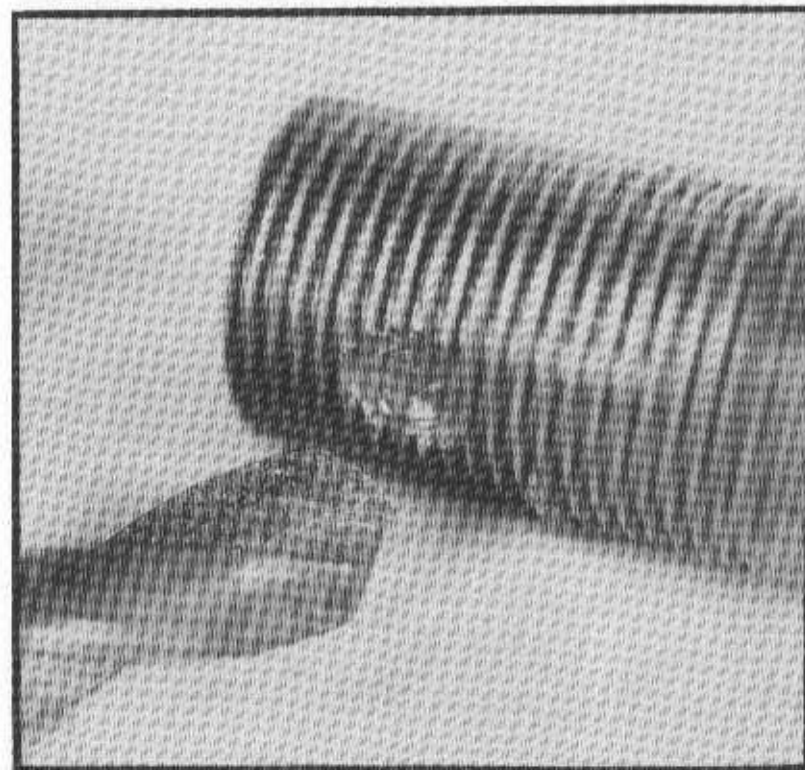

Figure 4-6
5. Again disassemble the collar and barrel and grind a flat spot on the barrel threads. Another way to create clearance for the end of the connecting lug is to use a large diameter bit and drill a shallow countersink hole. See Figure 4-6.